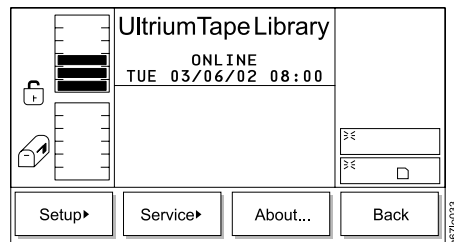

Figure 195. Main Menu (alternate screen)
1. From the Main Menu's initial screen, press the button below the **More** softkey. The Main Menu's alternate screen displays (see Figure 195).